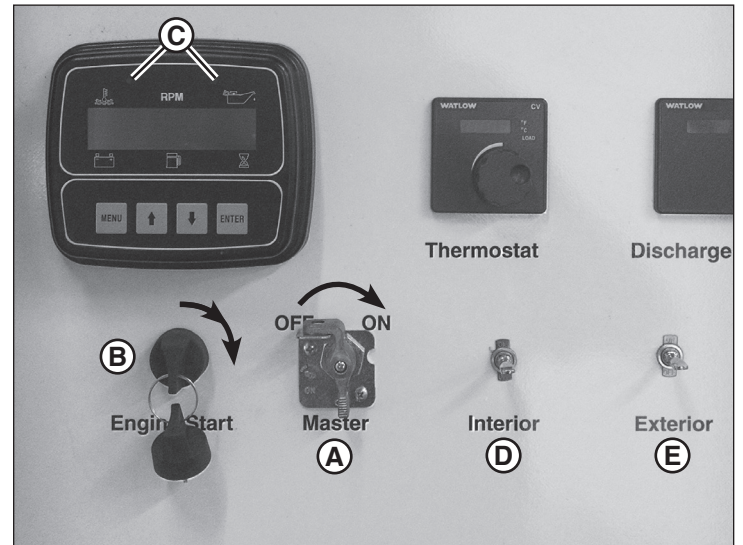

Figure 17
2. Turn the master switch (A, Figure 17) to the ON position.
**NOTE:** Turning the master switch to the ON position provides power to the interior light switch (D) and exterior light switch (E).
3. Turn the key switch (B, Figure 17) to the RUN position. The glow plug indicator lights (C) on the engine monitor and control center will illuminate. Wait for the lights to turn off (approximately 15 seconds).